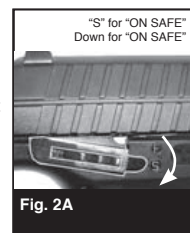

Fig. 2A
- Push the safety down until it covers the red dot (Fig. 2A). The safety is not "ON SAFE" unless it is pushed all the way down and the RED dot is NOT showing.